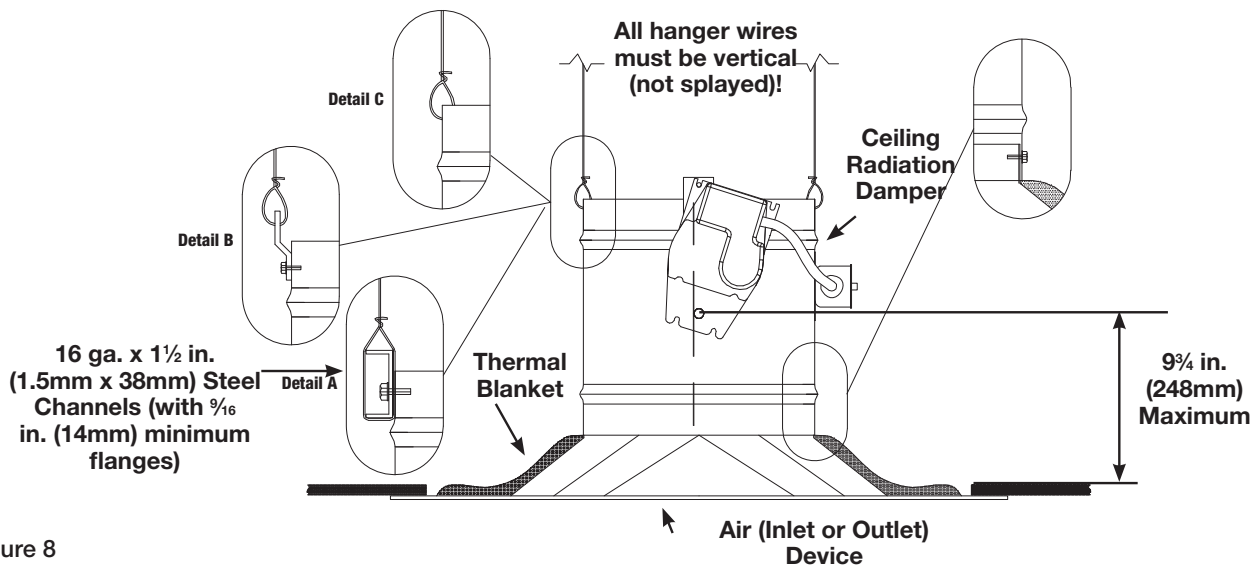

Figure 8
to the air device neck and supported by steel channel (see **Figure 8, Detail A**).
2. Ceiling radiation damper may be connected directly to the air device neck and supported by hanger straps (see **Figure 8, Detail B**).
3. Ceiling radiation damper may be connected directly to the air device neck and supported by direct suspension with wires looped through holes in the damper frame before tying (see **Figure 8, Detail C**).
Models CRD-501 may be installed as shown in **Figure 8**.